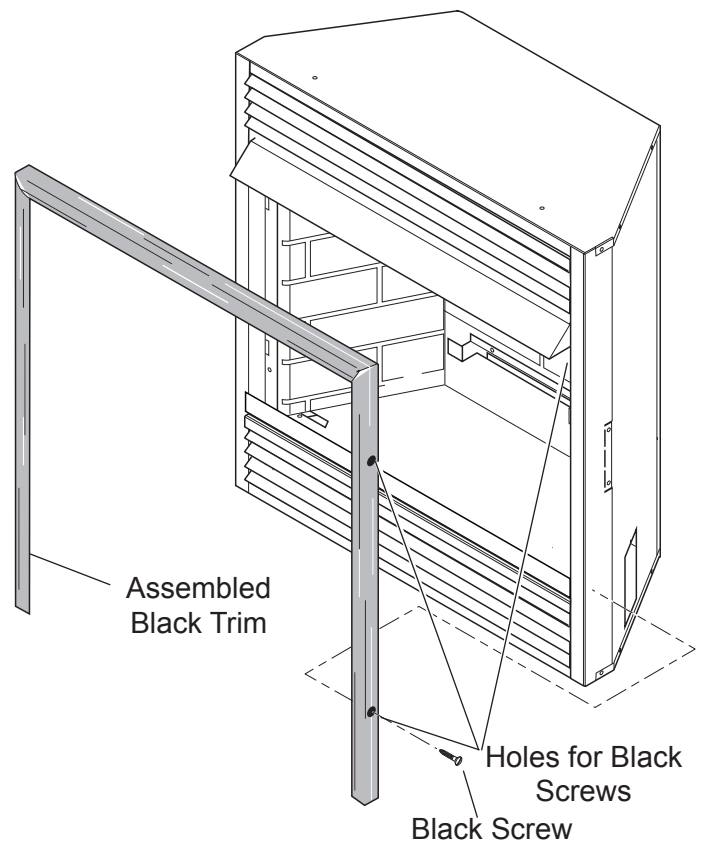

Figure 8 - Attaching Assembled Black Trim to Heater
NOTE: If you do not attach the trim at the correct corners, use a hammer and screwdriver to tap on the one end of the 90°-angle bracket. This will separate the two pieces of trim (See Figure 8).
5. Place assembled black trim on front of heater. Using four (4) black screws, secure black trim to sides of heater (See Figure 8).